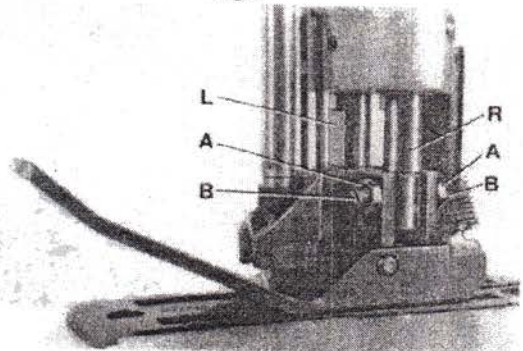

Fig.8
Remove the needle and rotate the pulley until the feed dog is below the throat plate. Depress the presser foot lifter lever and insert the presser foot in the two presser bars (L and R, Fig. 8). The right presser bar (R) should only engage with its pivot in the groove of the presser foot shank.
Loosen the two lock nuts (A, Fig. 8) and align with the two set screws (B), the needle slot in the presser foot with the needle slot in the throat plate. Secure this setting with the two lock nuts (A). **Note :** The two set screws (A) should just contact the pivot of the right presser bar (R) but not be tightened. Now tighten the two set screws left in the presser foot shank on the left presser bar. Insert the needle.